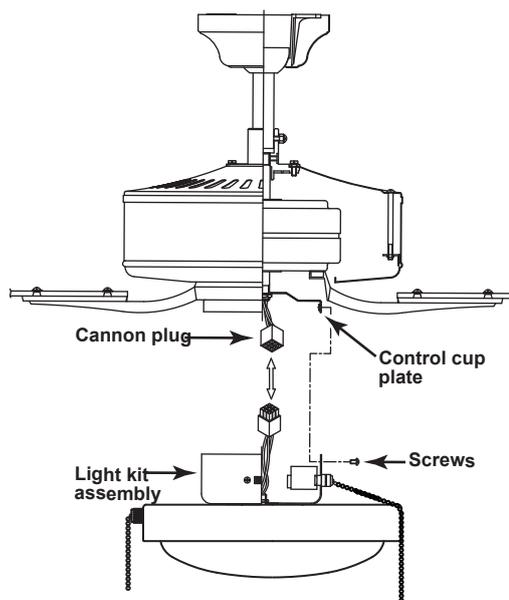

Figure 2
3. While holding the light kit assembly, firmly snap the wire molaxes together. Next, slide light kit assembly up against plate and rotate it until the screw holes are aligned. Secure light kit assembly to plate using the screws removed earlier. (Fig. 2)